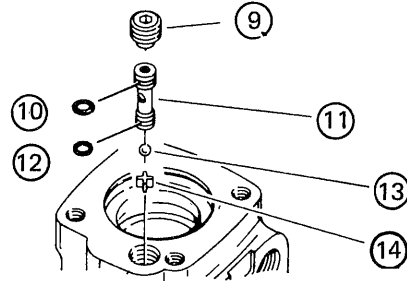

Fig. 137
- (1) Put check ball retainer (14) into check valve hole in housing using a pincette. Make certain that retainer (14) is correctly in valve hole (Fig. 137).
- (2) Put check ball (13) into the same hole (Fig. 137).
- (3) Put 7.6 mm diameter O-ring (12) and 9.3 mm diameter O-ring (10) in place (Fig. 137).